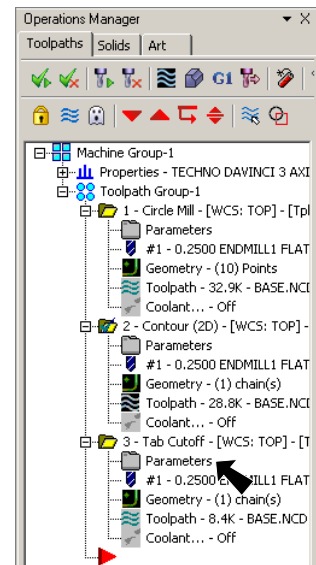

Fig. 42
Step 1. In the Toolpaths Manager under **Tab Cutoff toolpath** click **Parameters**, **Fig. 42.**